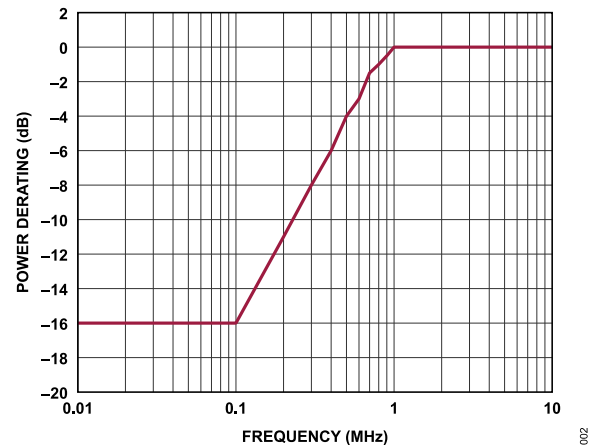

Figure 2. Power Derating vs. Frequency, Low Frequency Detail, $T_{CASE} = 85^{\circ}\text{C}$
² For power derating over frequency, see Figure 2.
¹ For power derating over frequency, see Figure 2.
- For power derating over frequency, see Figure 2.